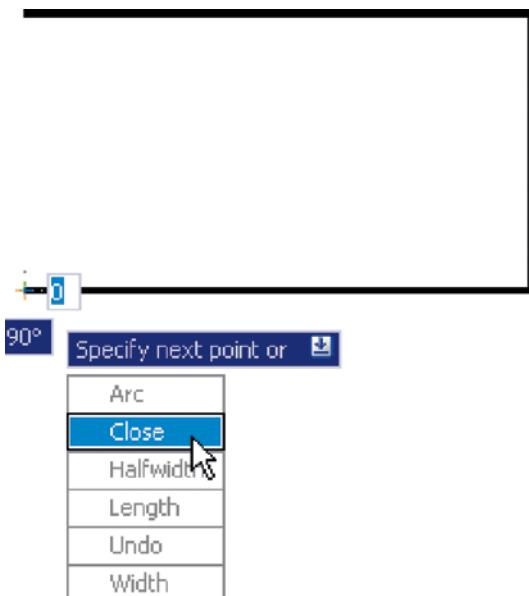

Fig. 3.32 Dynamic Input – first example – **Polyline** – selecting **Close** from the pop-up menu
8. Press the **down** key of the keyboard and *click Close* in the menu (Fig. 3.32). The rectangle completes.